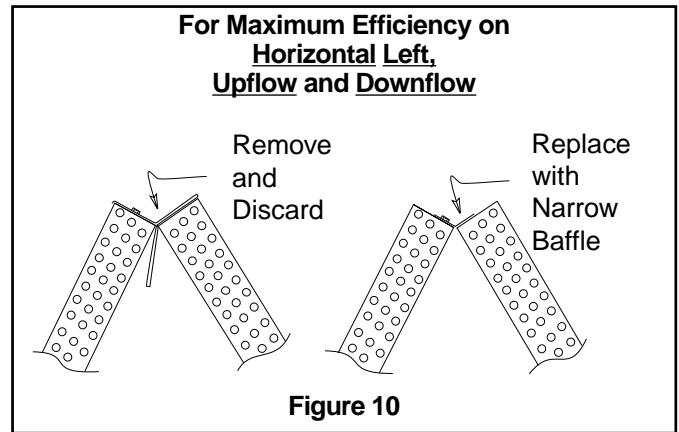

Figure 10
- b. Remove the factory installed baffle assembly from the apex of the coil by using a nutdriver to remove the 5/16" screw. Replace this baffle with the factory supplied narrow coil baffle using the screws removed previously. See Figure 10. Reinstall coil assembly.
- b. Remove the factory installed baffle assembly from the apex of the coil by removing the 5/16" screw. Replace this baffle with the factory supplied narrow coil baffle using the screws removed previously. See Figure 10.